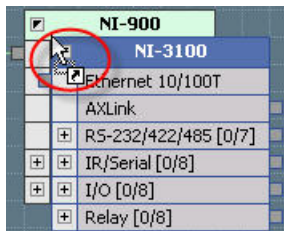

FIG. 128 Replacing the Central Controller
2. When the replacement Controller is positioned correctly to replace the existing one, the Replace icon is displayed on the cursor (FIG. 128):